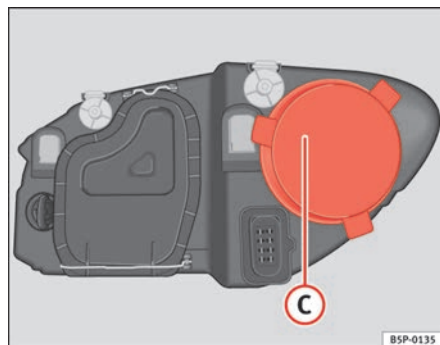

Fig. 162 Main beam headlights
- Remove the cover ⇒ fig. 162 ① by pulling on this.